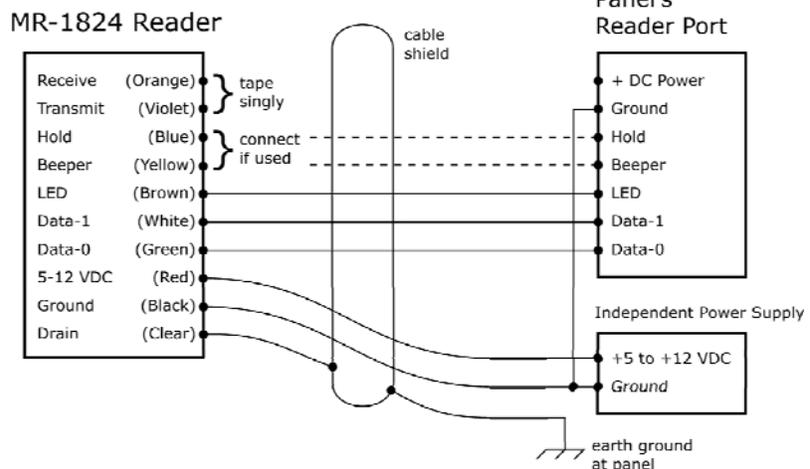

FIGURE 2. Wiring Diagram (Wiegand)
4. Connect the reader’s wires for ground, data-0, data-1, LED, and power, and the silver drain wire (see Figure 2). Connect the *yellow* wire only if used for Beeper control by the panel. Connect the *blue* wire only if used for Hold control by the panel. **Do not connect** the *orange* and *violet* wires. **Tape or cap** the unused wires separately.
(b) The number of conductors depends upon use of optional features – LED, Beeper & Hold (see Figure 2).